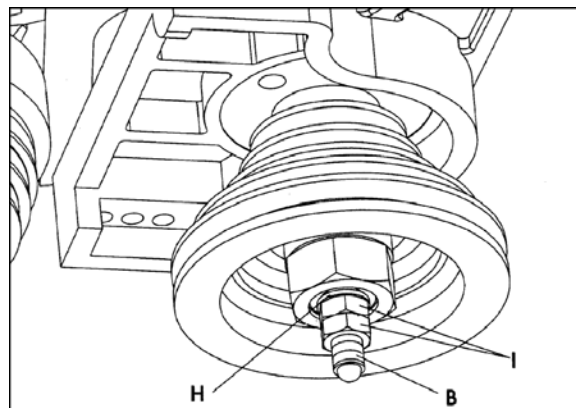

Figure 5
8. Open the cabinet door and assemble the bevel washer (H, Figure 5) to the bottom of the draw bar (B, Figure 5).
9. Assemble and securely tighten the two lock nuts (I, Figure 5) with a 19mm wrench.